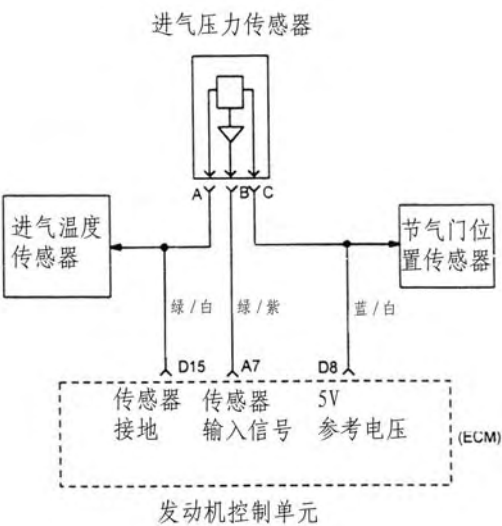

FIG. 4-5b)
2) Intake temperature/pressure sensor (Fig4-5a) ,Fig. 4-5b))
Be installed on the intake manifold stable pressure chamber to provide engine load information. ECU provide 5V voltage to the sensor, the sensor responds to manifold pressure of different lode and rotate speed which is changed to voltage single and transmitted to ECU,FIG. 4-5b), FIG.4-5c)。